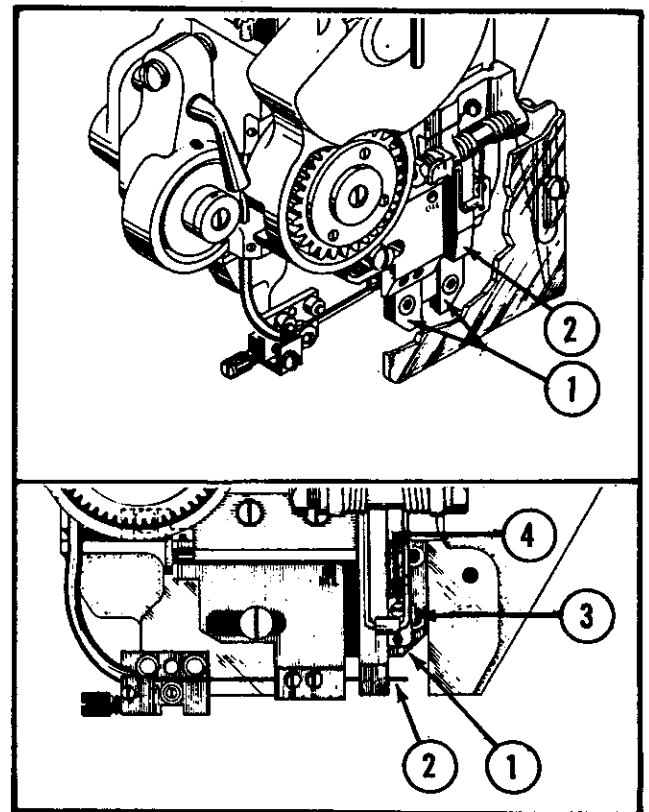
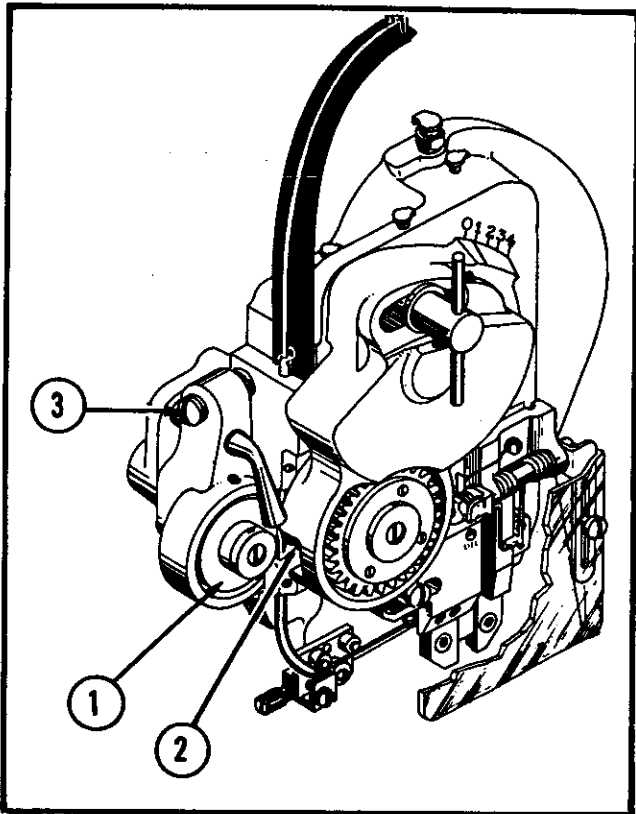

Figure 13—Adjustments for Aligning Gripper Bar and Formers
Figure 14—Wire Feed Gear Tension Adjustment
6. HOW TO ALIGN GRIPPER BAR AND FORMERS (See Fig. 13)
a. Turn over the machine manually and, as the formers (1) descend, check that the grooves in the formers are in exact alignment with the wire length being held by the gripper bar (2).
b. If they are not in alignment, (usually resulting in deformed crown surface), loosen the clamp block holding screw (3). Then turn gripper bar adjusting screw (4) in or out, as required, until alignment is correct. After adjustment has been made, tighten clamp block holding screw (3).
7. HOW TO ADJUST TENSION OF WIRE FEED GEARS (See Fig. 14)